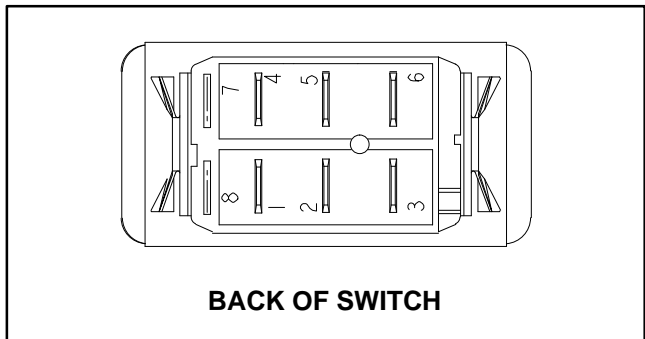

Figure 45
3. With the use of a multimeter (ohms setting), the boom spray switch functions may be tested to determine whether continuity exists between the various terminals for each switch position. The switch terminals are marked as shown (Fig. 45) and the circuitry of the boom spray switch is shown in the chart (Fig. 46). Verify continuity between switch terminals.